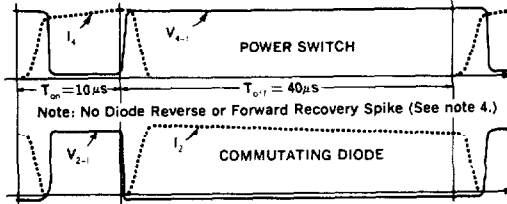

Figure 2. PIC645, 646, 647 Switching Waveforms
- No reverse recovery spike generated by commutating diode (See note 4. and Fig. 2.)
- In switching an inductive load, the current will lead the voltage on turn-on and lag the voltage on turn-off (see Figure 2). Therefore, Voltage Delay Time ( $t_{DVI}$ ) =  $t_{di} + t_{ri}$  and Current Storage Time ( $t_{st}$ ) =  $t_{sv} + t_{fv}$ .
- As can be seen from the switching waveforms shown in Figure 2, no reverse of forward recovery spike is generated by the commutating diode during switching! This reduces self-generated noise, since no current spike is fed through the switching regulator. It also improves efficiency and reliability, since the power switch only carries current during turn-on.